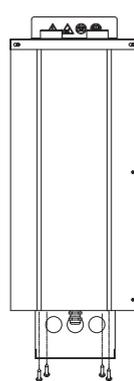
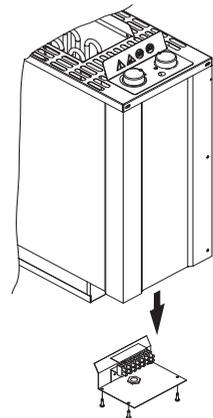

Abb. 3
Fig. 3a
2. At first verify that the power supply line has been disconnected from power before making the connections. First unscrew the four screws shown in Fig. 3 and then pull down the terminal strip. See Fig. 3a.